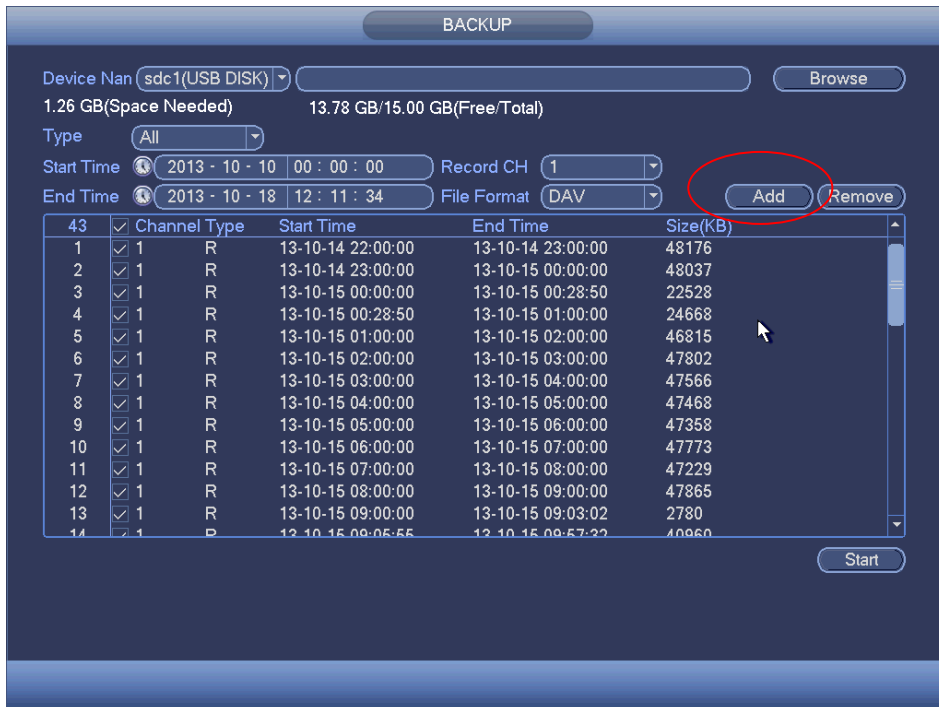

Figure 4-107
Step 3 Click add button, system begins search. All matched files are listed below. System automatically calculates the capacity needed and remained. See Figure 4-107.